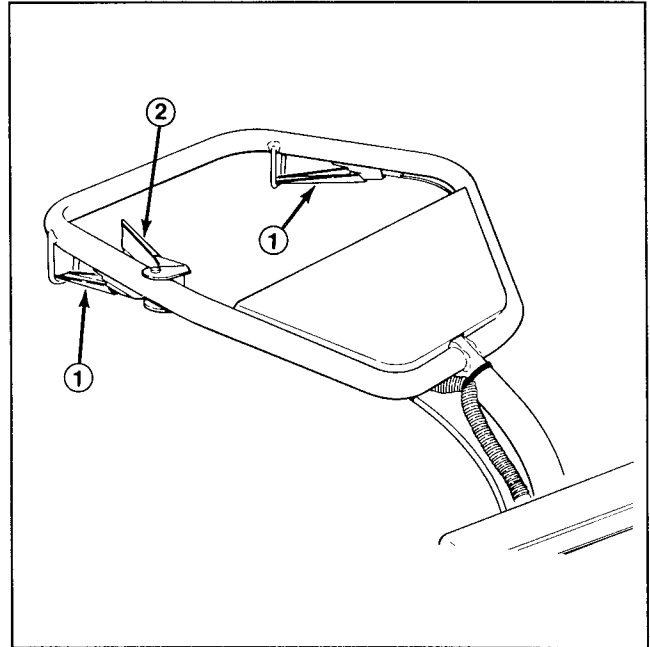

Figure 15
Interlock Lever Switches (2) (Fig. 15) — Switches permit engine operation when coring head is lowered. They also hold the traction drive lever in engaged position. One handle switch must be activated before engaging traction drive or lowering the coring head, when engine is running.
Service Brake (Fig. 15) — Used to slow down traction operation.